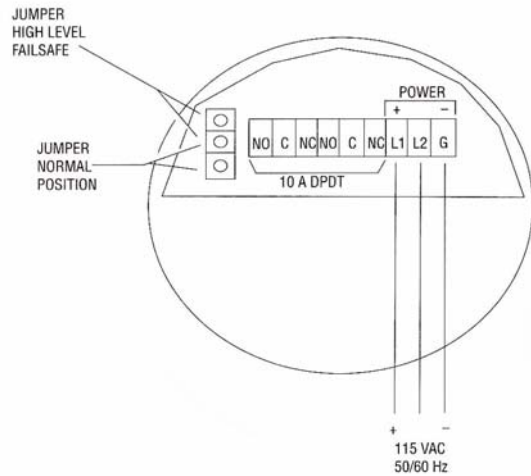

FIGURE 1
- 2) Open the housing cover and connect the power to the control unit. See Figure 1.
4. To complete wiring, remove the housing cover and the encapsulated electronics. See Figure 1.